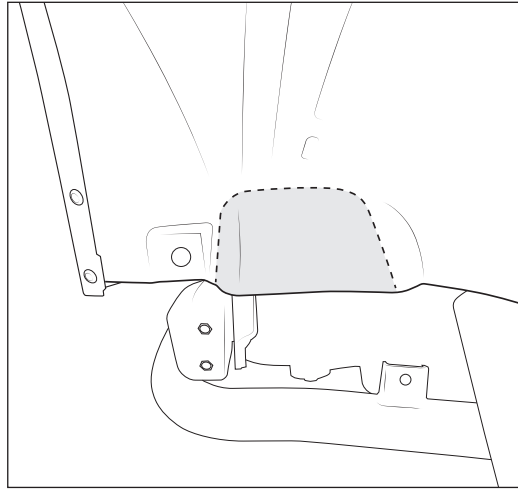

Figure 1
- A. Mark and trim a portion of the protruding section of the factory wheel liners shown (fig. 1) using a utility knife or heavy scissors. Note that part of the bump on the inboard side is retained, removing fully will create a gap between the wheel liner and the Flare Extension.